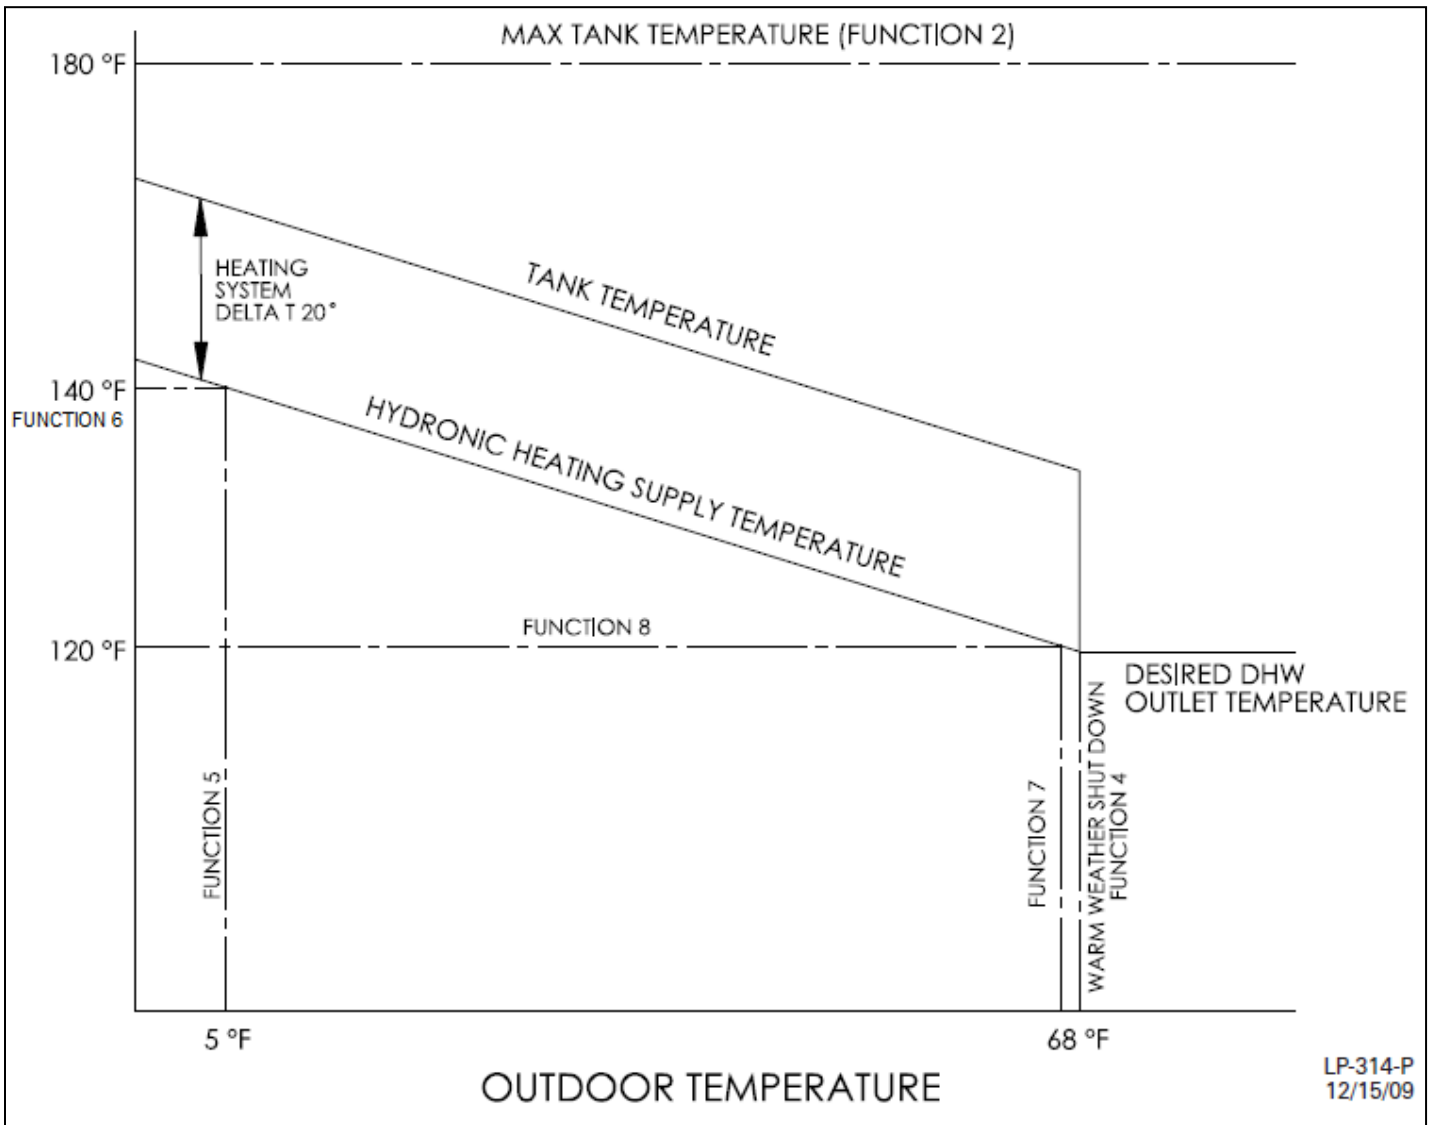

Figure 28
9. A proper outdoor reset curve should be set to further optimize system performance and efficiency. Figure 28 shows how each function will affect system performance. The values in Figure 28 show the system default.